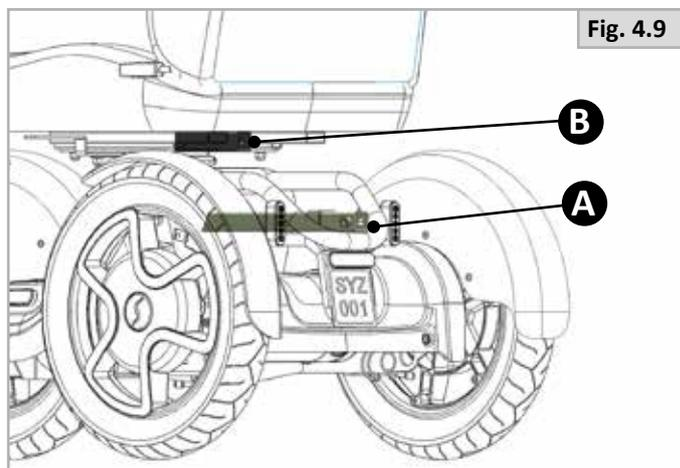

Fig. 4.9
4.8.4 Mounting points for universal mobility scooter accessories (Fig. 4.9)